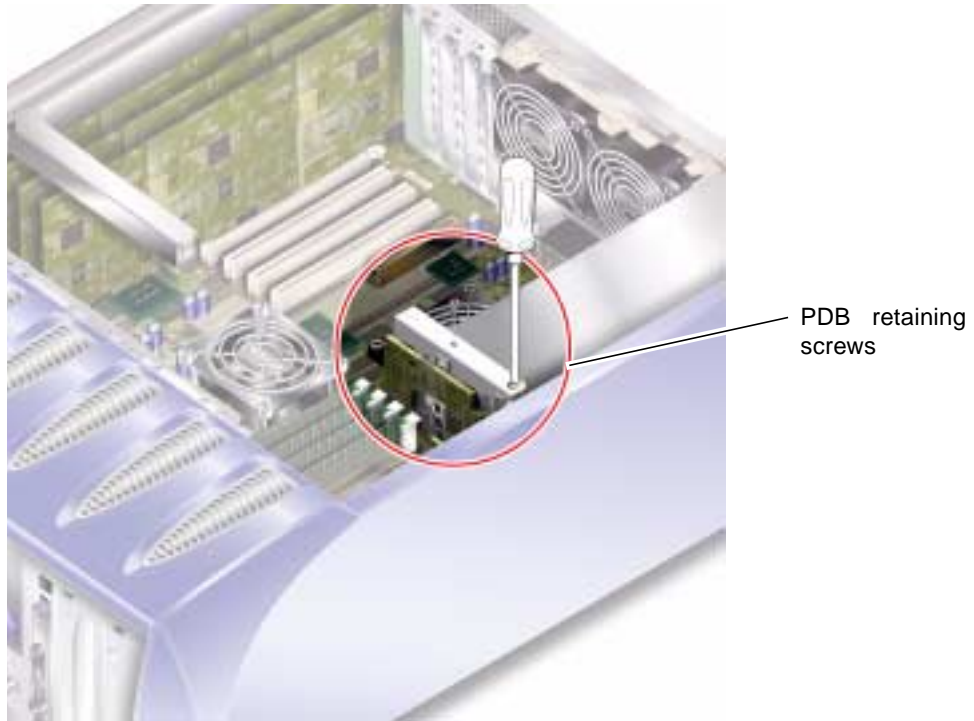

FIGURE 1-12 Power Distribution Board Retaining Screws
7. Undo the two screws securing the PDB to the chassis. (See FIGURE 1-12.)